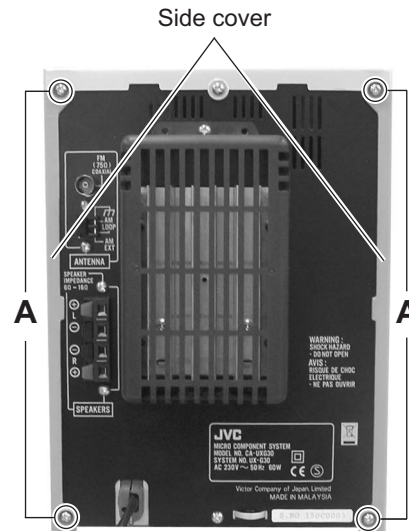

Fig.1
3.1.1 Removing the side cover (See Figs.1 and 2)
- (1) From the rear side of the main body, remove the four screws **A** attaching the side cover. (See Fig.1.)
(See Fig.1)